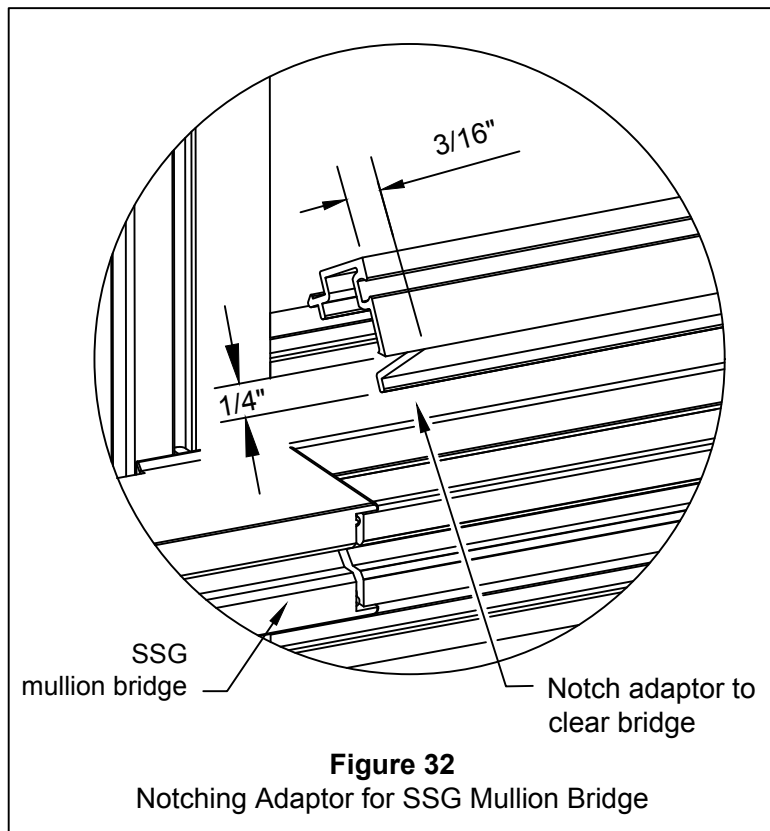

Figure 32
A.3 Install horizontal adaptors maintaining an equal gap at each end. **Note: For horizontal adaptors that are adjacent to SSG mullions, a small notch must be made to the tongue engagement hook in order to clear the SSG mullion bridge. SEE FIGURE 32.** Once all adaptors have been installed in the opening, seal all joints between the vertical and horizontal adaptors. Run a bead of sealant in the groove formed between the adaptor and mullion. This seal must be continuous around the opening and must marry with the seal at the horizontal to vertical adaptor joints. **SEE FIGURE 33.**